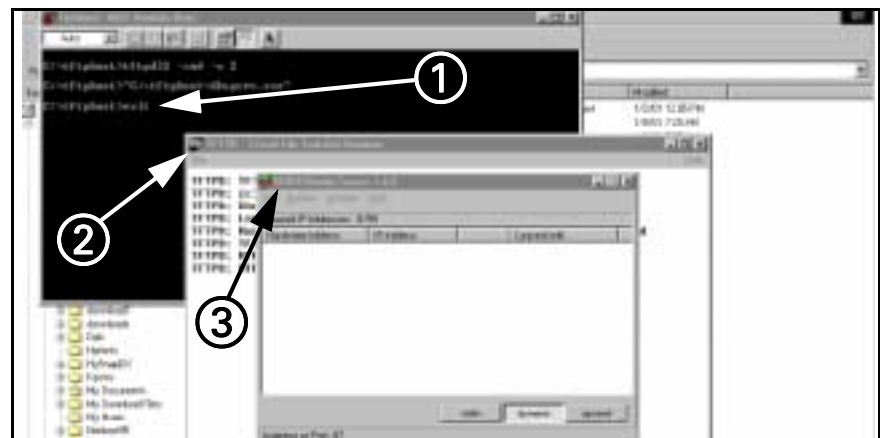

Figure 15-13 Window tftpd
6. Verify "Finished - MDS Remote Boot" window (① in Figure 15-13) opens, then "TFTPD - Trivial File Transfer Daemon" window (② in Figure 15-13) opens, then DHCP/Bootp Server 1.6.5 window opens (③ in Figure 15-13). If not displayed repeat steps 2-4. If windows still are not displayed, repeat Section 16.3.3, then Section 16.5.
Note: DHCP/Bootp Server 1.6.5 window may open Minimized. If window not displayed on Main (③ in Figure 15-13) screen check to see if program in Windows Task bar at bottom of Windows screen.